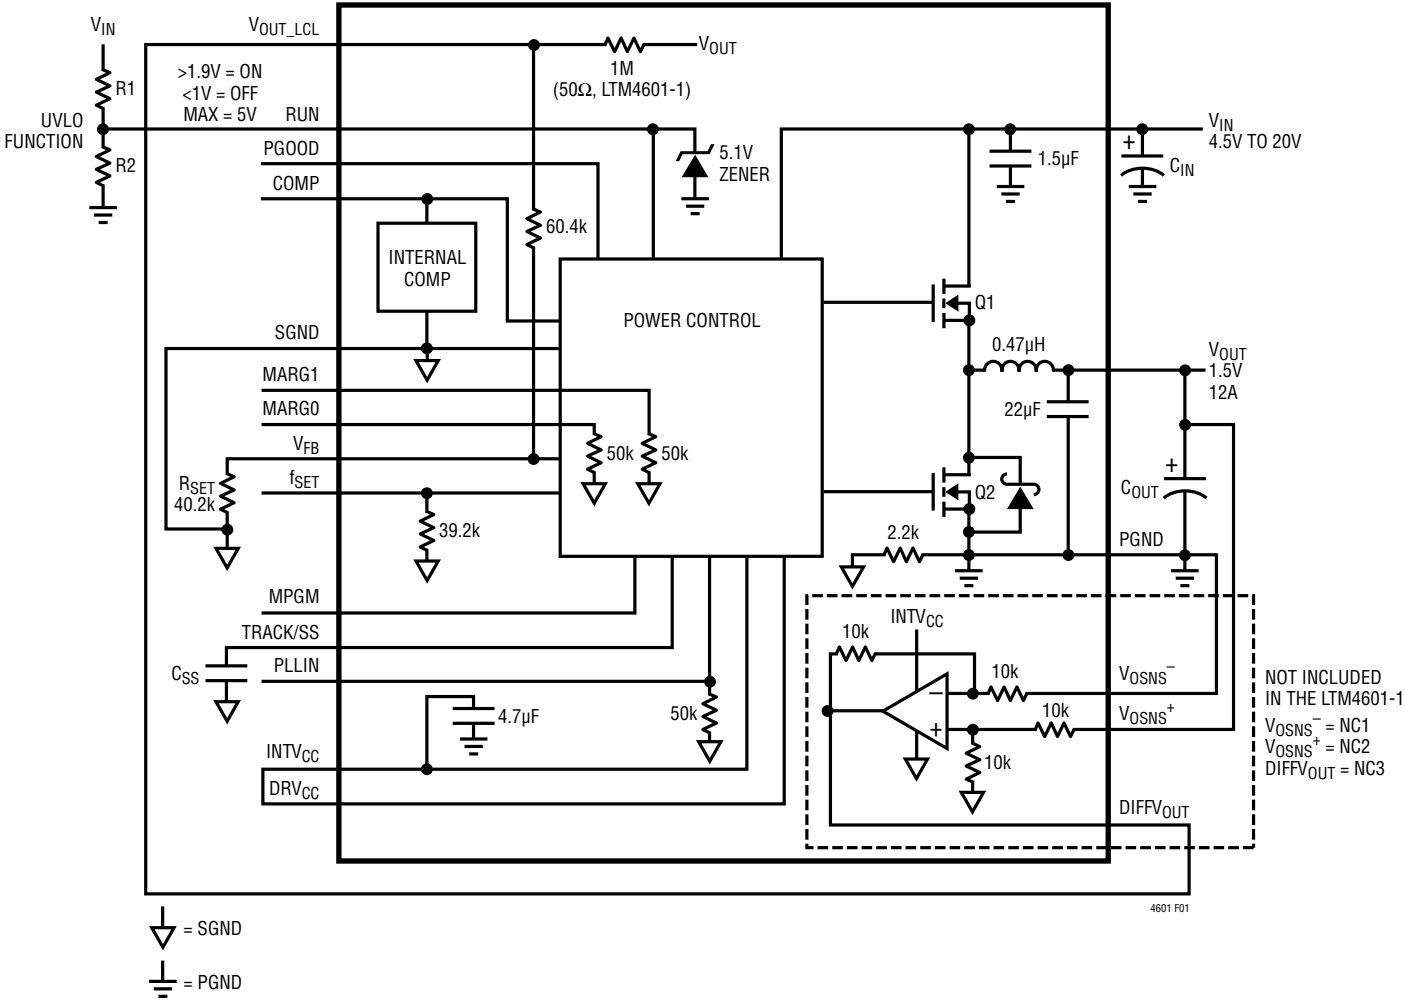

Figure 1. Simplified LTM4601/LTM4601-1 Block Diagram
**RUN (Pin A10):** Run Control Pin. A voltage above 1.9V will turn on the module, and when below 1V, will turn off the module. A programmable UVLO function can be accomplished by connecting to a resistor divider from  $V_{IN}$  to ground. See Figure 1. This pin has a 5.1V Zener to ground. Maximum pin voltage is 5V. Limit current into the RUN pin to less than 1mA.
**DECOUPLING REQUIREMENTS**  $T_A = 25^\circ\text{C}$ ,  $V_{IN} = 12\text{V}$ . Use Figure 1 configuration.
See Figure 1, Simplified Block Diagram.